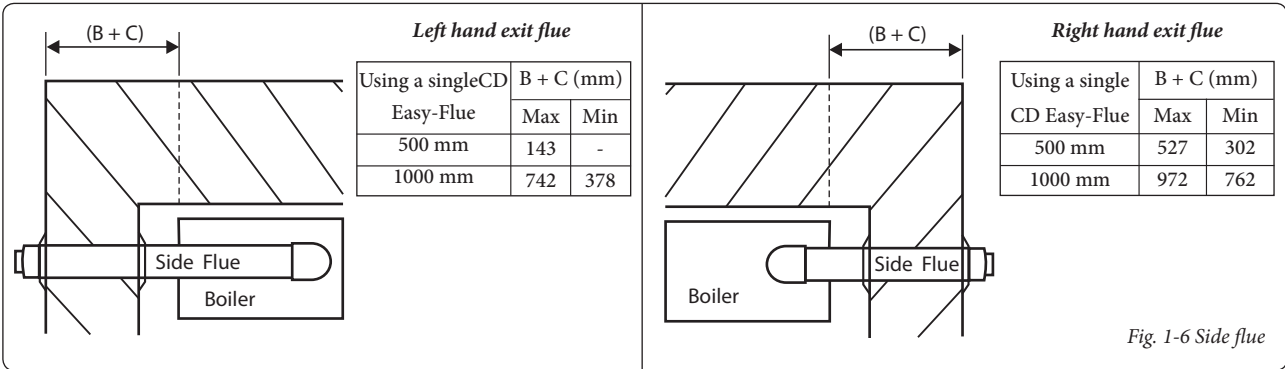

Fig. 1-6 Side flue
- When the flue length required is more than the maximum stated in Section 1.6, paragraph 1, refer to the table below and Fig. 1-6.